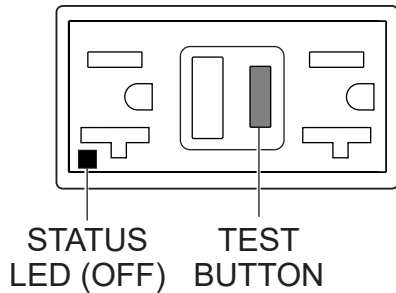

Figure 82. GFCI Receptacle (OFF)
4. Press the **TEST** button (Figure 82) on the GFCI receptacle and verify that the status LED turns **OFF**.